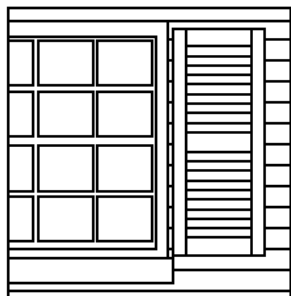

Fig. 1
- 1 - Place shutter next to window at desired location. See figure 1.